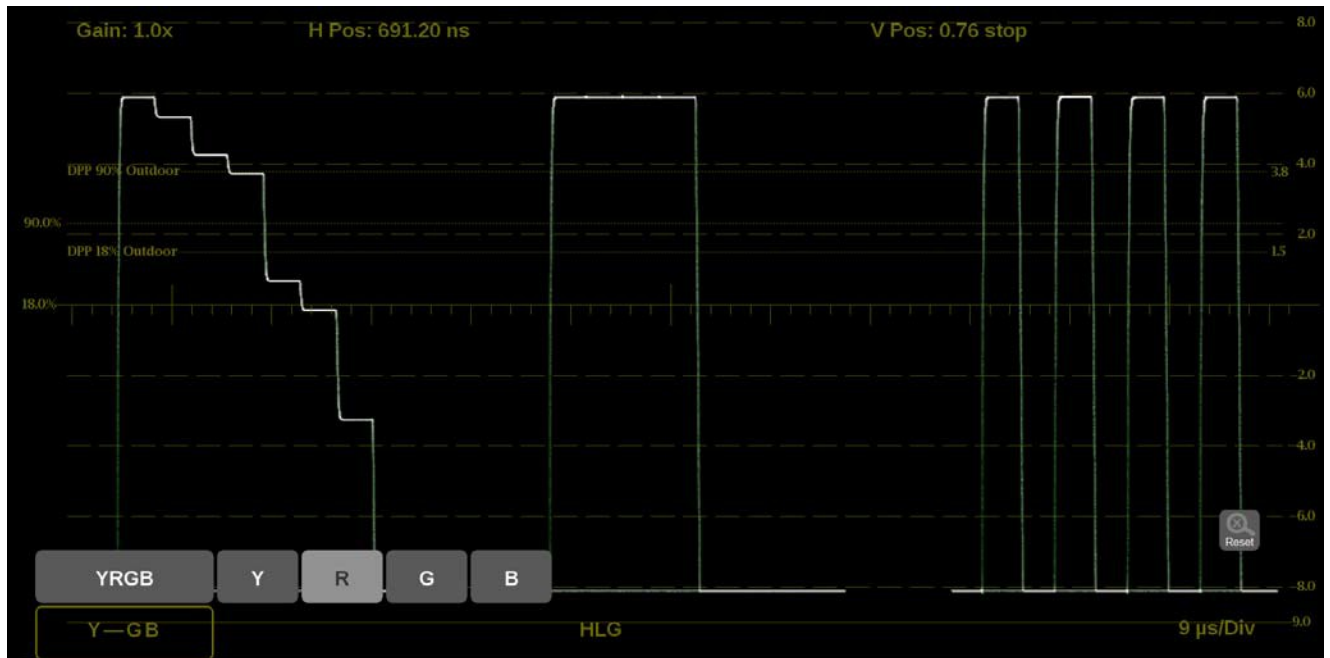

Figure 199: Stop Display on-screen tools – Display Mode
1. Select the button in the bottom left corner of the application to expand the available display options. (See Figure 199.)